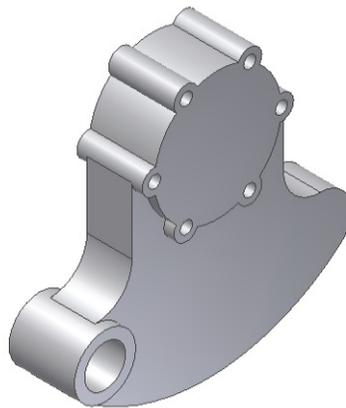

Figure 6-140 Model after creating the hole on the join feature
- d. Create the cylindrical join feature and then create a hole in it, refer to Figure 6-140.
5. Modify the value of the diameter of the hole in the preview window to **20**. Choose **OK**; the dialog box is closed and a hole is created. The model after creating the hole on the join feature is shown in Figure 6-140.